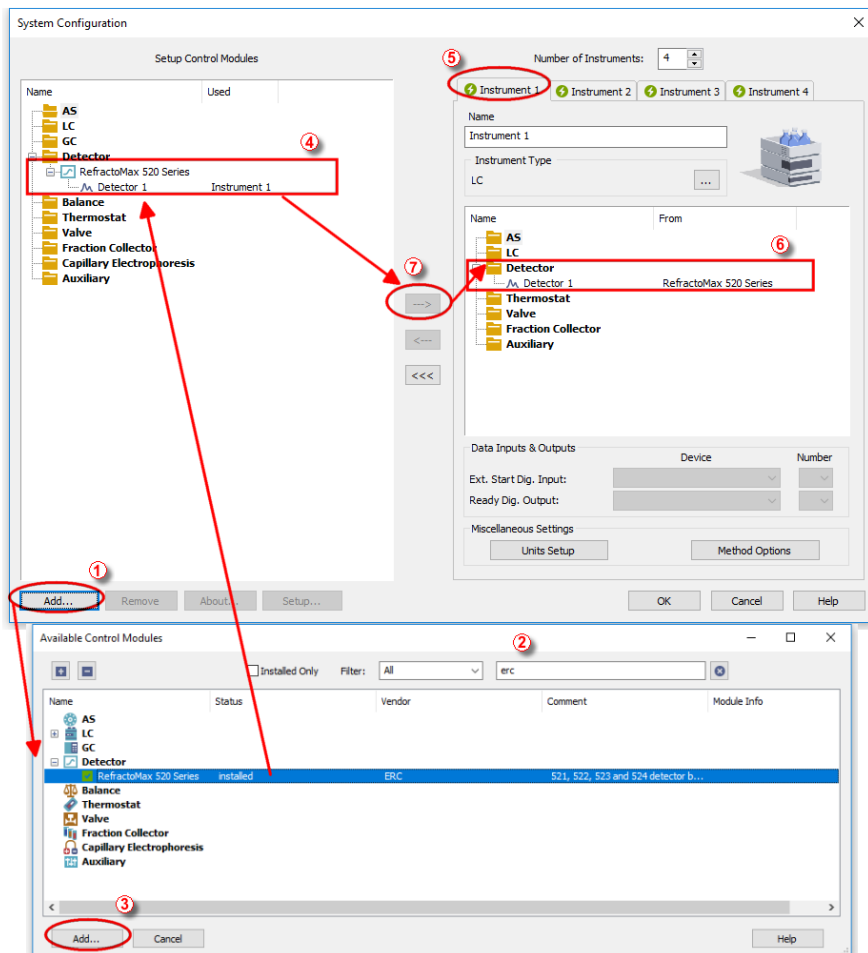

Fig 3: How to Add ERC Refractomax 520 module
- Press the **Add** button (1) on **Fig 3** on pg 4.) to invoke the **Available Control Modules** dialog.
- You can specify the search filter (2) to simplify the finding of the driver.
- Select the correct item and press the **Add** (③ on **Fig 3** on pg 4.) button. Each device with already created UNI profile should have its own item named accordingly in the **Available Control Modules** dialog.